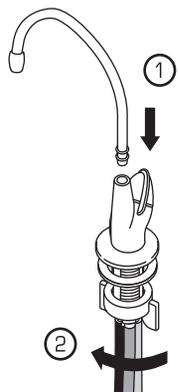

Fig. 19
2. Press Faucet spout into the main body (1). Unscrew to remove the wing nut while keeping the foam gasket against the faucet body (2) (Fig. 19).